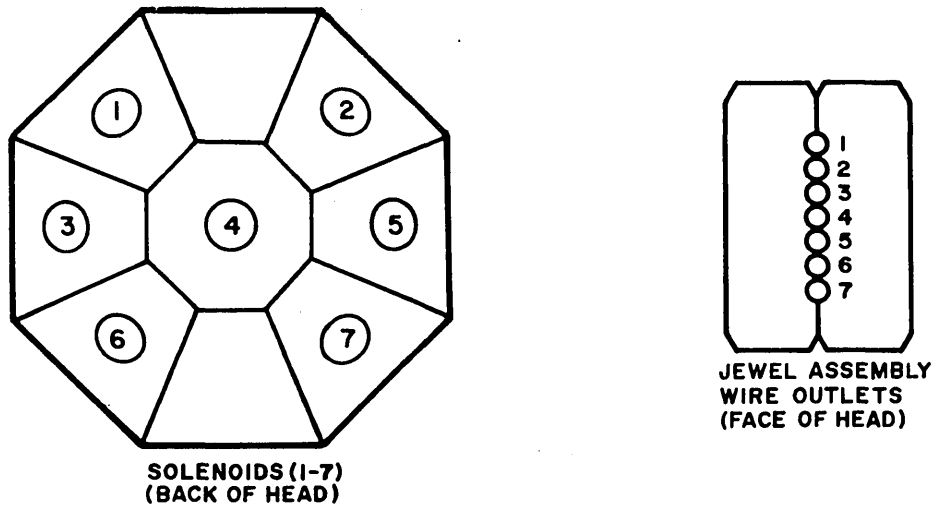

Figure 4-18. SOLENOID POSITIONS, 1 THROUGH 7
4.5.5 PRINT HEAD OPERATION (FIGURES 4-18, 4-19)
The print head is the device used to print the characters. The head contains seven solenoids that move seven wires against the ribbon to form the column of dots on the paper. The position of these solenoids and the location of the wires in the head are shown in Figure 4-18. Solenoid #1 controls the top dot and solenoid #7 controls the bottom dot in a column. The wires come from each solenoid and are positioned at a jewel located at the end of the head. The length of these wires is approximately 3.5 inches and each wire requires about one ounce of force to begin its movement. The amount of force needed to move the wires 0.015 inch (i.e., the distance necessary to make a dot on the paper) is about 12 ounces.